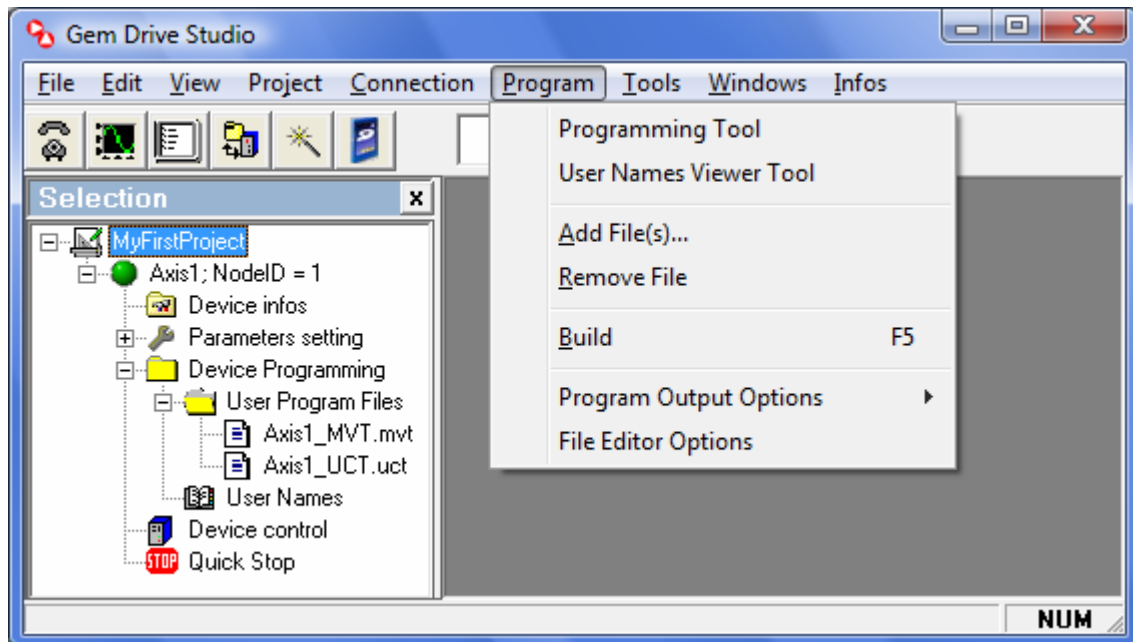

Figure 4-2: Program Menu.
File and output window text can also be customized by configuring their options in the Program Menu (see Figure 4-2).
2. Select “Add File” from the environment “Program Menu” (see Figure 4-2).
The user can still remove from a project a previously added file. He must at first select it by clicking on its project navigator icon  (see Figure 4-2) and then:
2. Select “Remove File” from the environment “Program Menu” (see Figure 4-2).
1. Build axis program from a *Program Menu: Build* (see Figure 4-2) or